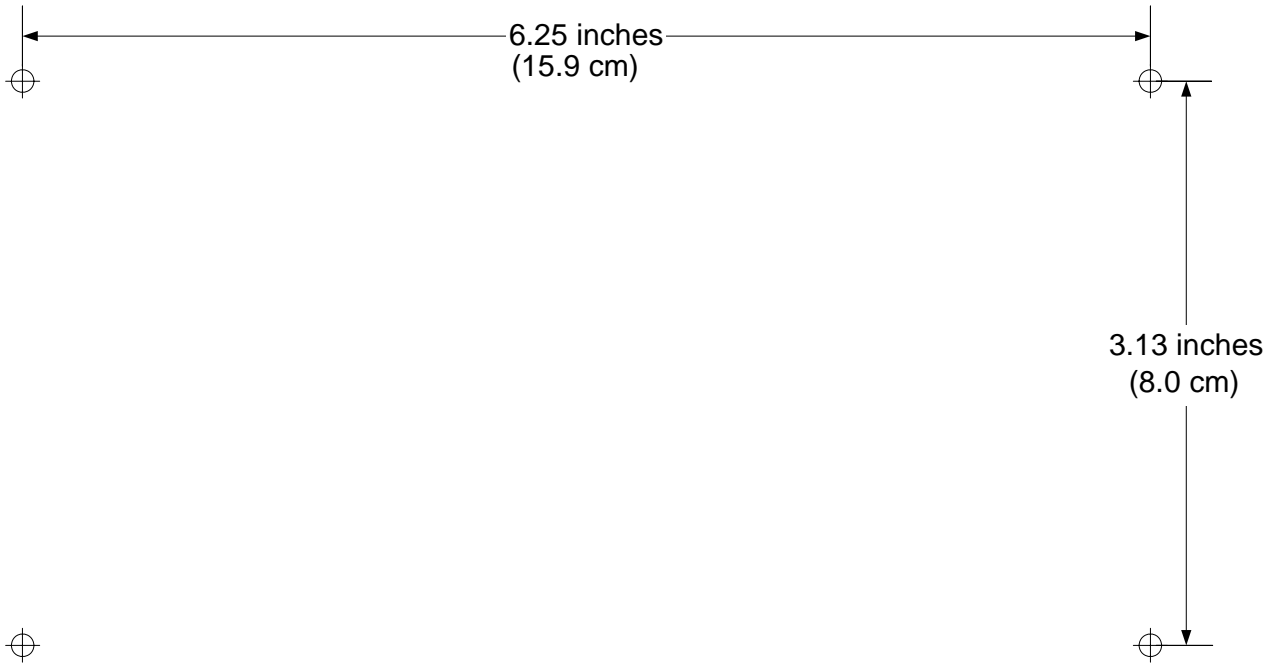

Figure 3-3: Wall Mount Hole Drilling Template
1. Install 4 mounting bolts in the wall at the desired location. The template provided in Figure 3-3 can be used to establish the hole pattern on the wall. The bolts (normally $\frac{3}{8}$ -16) should extend 0.8 to 3.0 inches (2cm to 7.5cm) from the wall and be strong enough to secure the radio to the wall under foreseeable environmental conditions. The environmental conditions may include, but not limited to, wind, rain, ice, etc. Depending on the wall material the mount is being attached to, a different size bolt may be appropriate. In this case, bolts up to $\frac{3}{4}$ inch in diameter may be used.